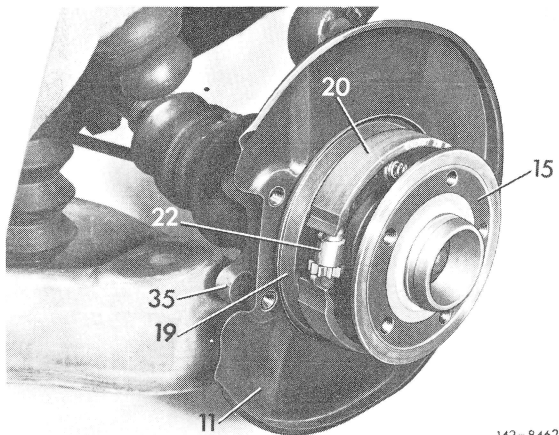

Fig. 10
7 Pull both brake shoes (20) apart to permit removal over rear axle shaft flange (15) (Fig. 10 to 12).